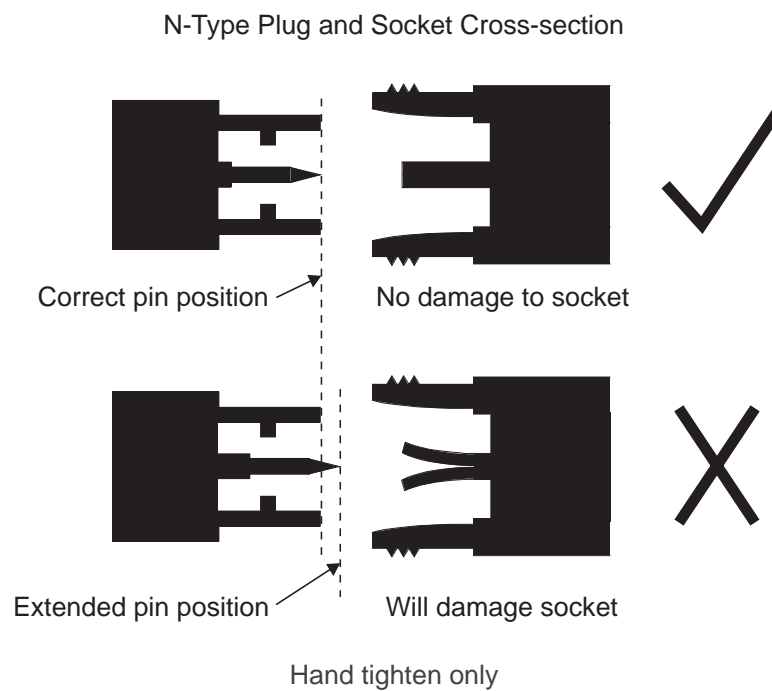

Figure 3.1 N-Type Plug Assembly Details
- if the pin protrudes too far (as shown in Figure 3.1), or is not straight, it may damage the socket when the plug is screwed in.